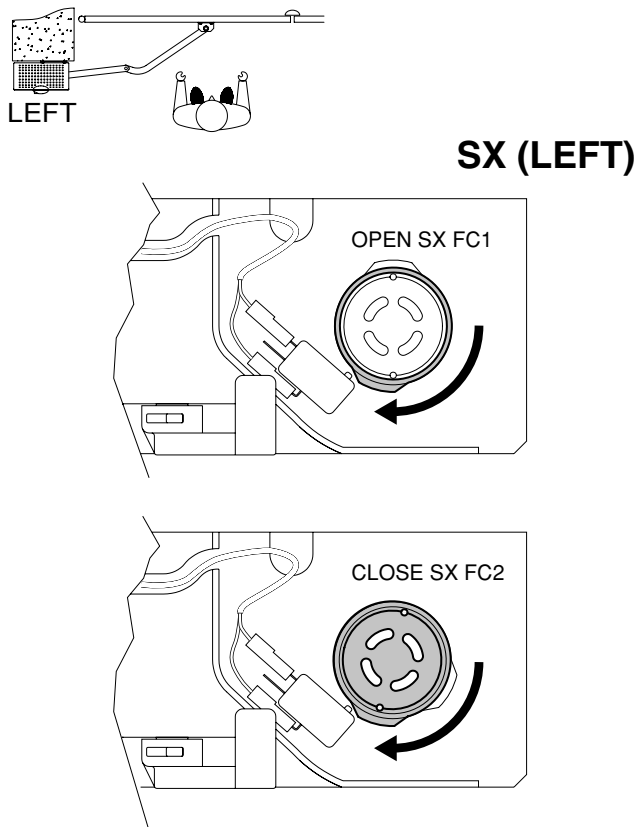

Fig. 14
**In the right-hand operator (fig. 14):**